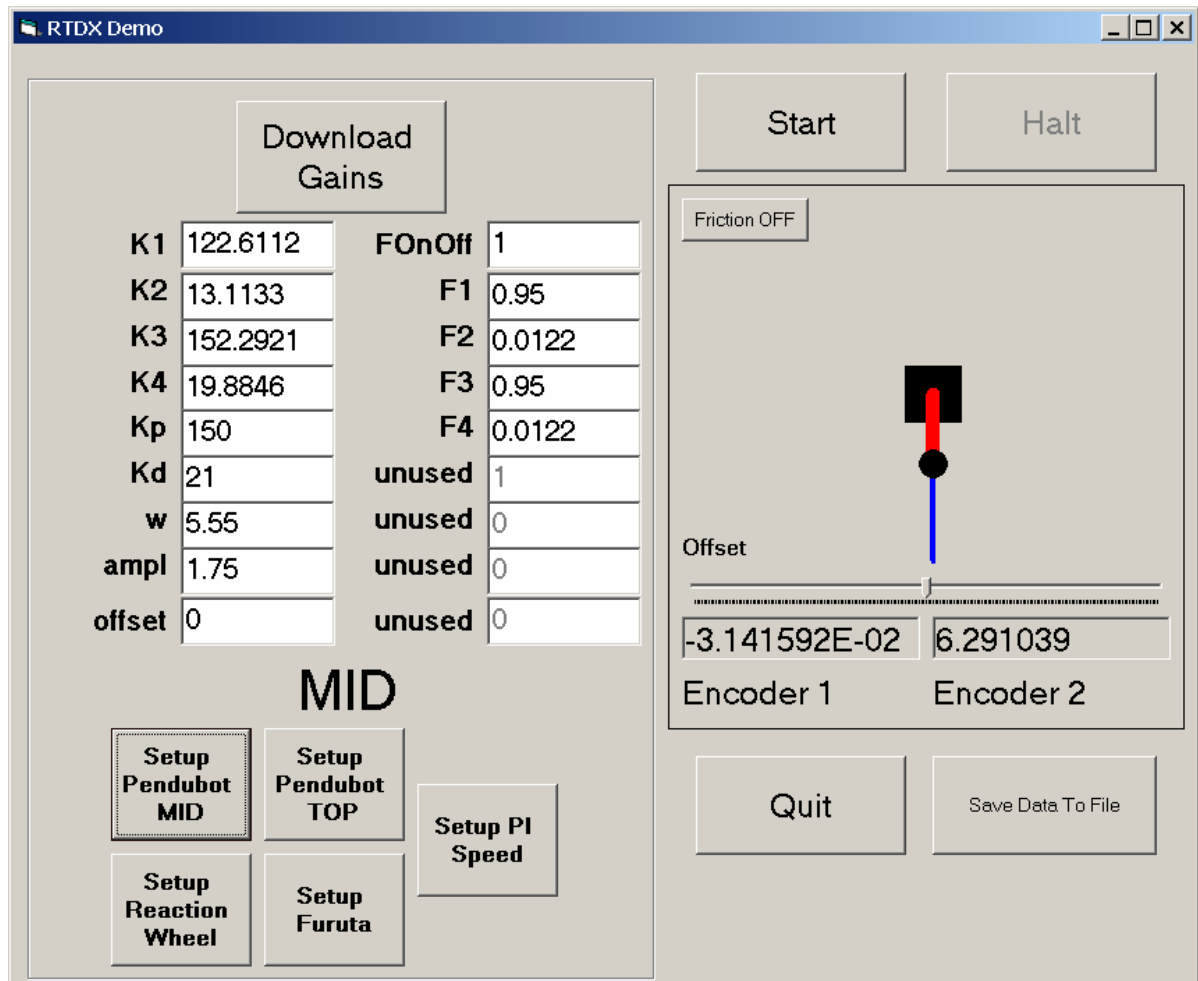

Figure 4-2 Visual Basic GUI
9. Now Launch the VB application plug-in dspbiosII\rtdxproj\vb\rtdxproj.vbp. A GUI interface similar to Figure 4-2 should appear.